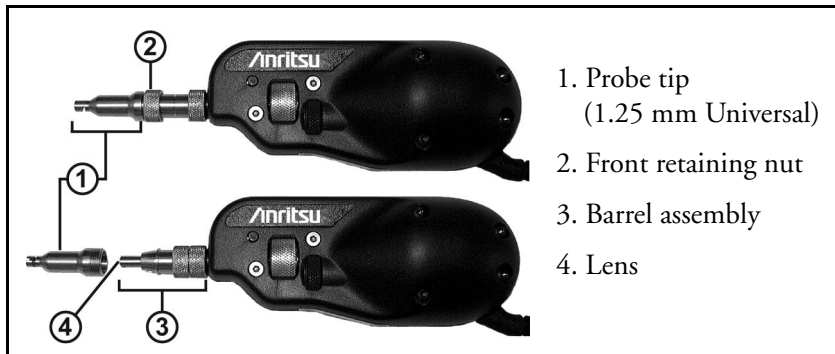

Figure 11-3: Video Inspection Probe with Universal 1.25 mm Tip
If a probe tip is already attached, loosen the front retaining nut (see item 2 in Figure 11-3) until it slides freely on the Barrel assembly (see item 3 in Figure 11-3).
Do not touch the lens surface (see item 4 in Figure 11-3 on page 11-4).